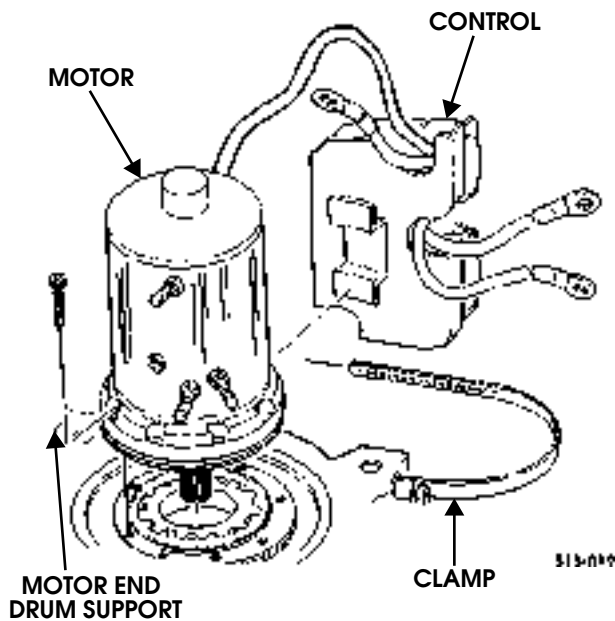

Figure 9-182: Control Unit and Motor
8. Secure motor to motor end drum support with two bolt assemblies. Tighten hex-head bolt to 60-70 lb-in. (7-8 N•m) (Figure 9-182).